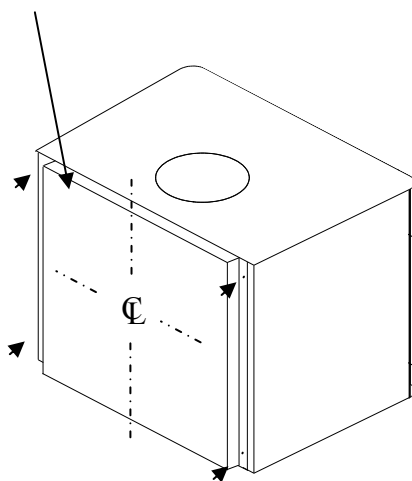

Figure 11a
1. Center rear close clearance shield with back of stove. Mark rear of stove, using reference holes in rear shield. Using self-tapping screws, drill four holes in locations marked. Remove screws and attach rear shield to back of stove. (See figure 11a).